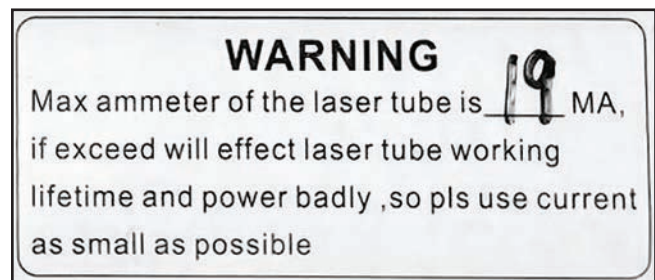

Figure 55. Example of ammeter mA rating.
26. During operation, verify ammeter indicator does not exceed the mA rating listed above ammeter (see **Figure 55**).